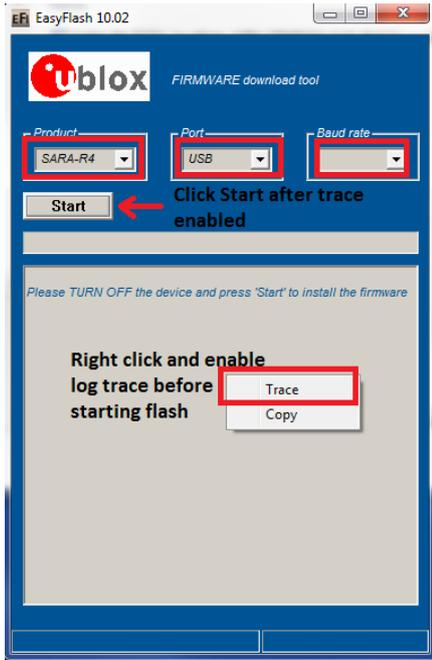

Figure 2: Setting up EasyFlash and start the FW installation
4. Select in pull down (see Figure 2)
5. Right click and enable trace (see Figure 2). This will create a log per flash attempt. It is useful if something goes wrong and it is needed to report the issue.
6. Click "Start" button (see Figure 2).